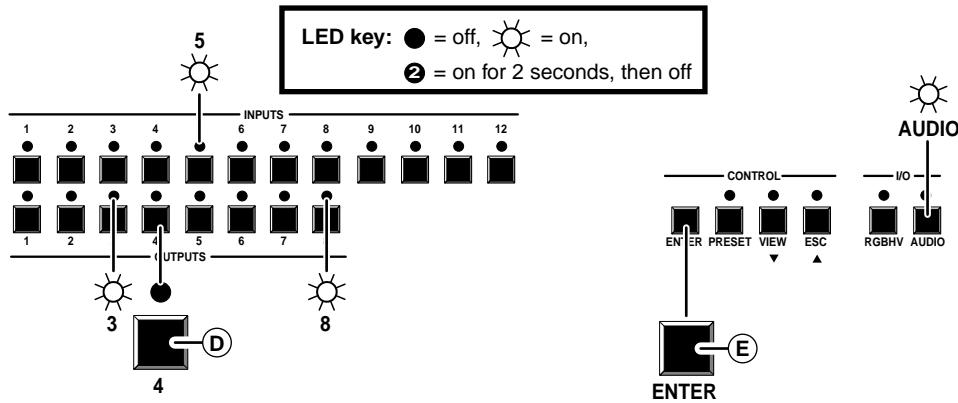

Figure 26 — Example 3d: Removing an audio tie
- (D) Press and release the output 4 button (figure 26). The output 4 LED turns off, while the output 3 and output 8 LEDs remain lit.